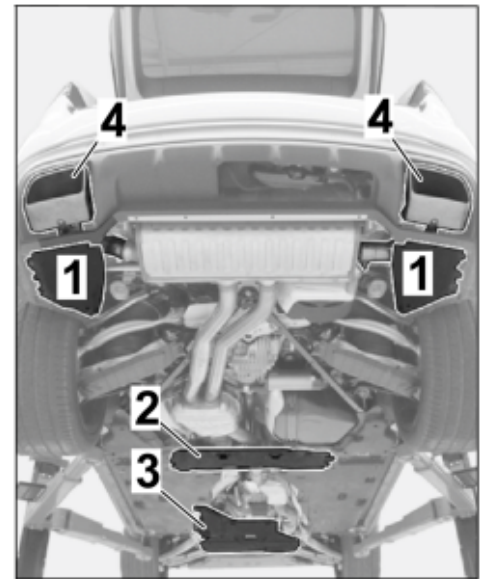

Figure 9
1.5.1 Remove the rear underbody cover and rear tunnel cover (⇒ Figure 9 -1 and 2-). ⇒ Workshop Manual '519419 Removing and installing rear underbody cover'
1.5.2 Remove the front underbody cover (rear section) (⇒ Figure 9 -3-). ⇒ Workshop Manual '51921900 Removing and installing front underbody cover'
1.5.3 Remove the tailpipe (left/right) (⇒ Figure 9 -4-). ⇒ Workshop Manual '263419 Removing and installing tailpipe - T9I'